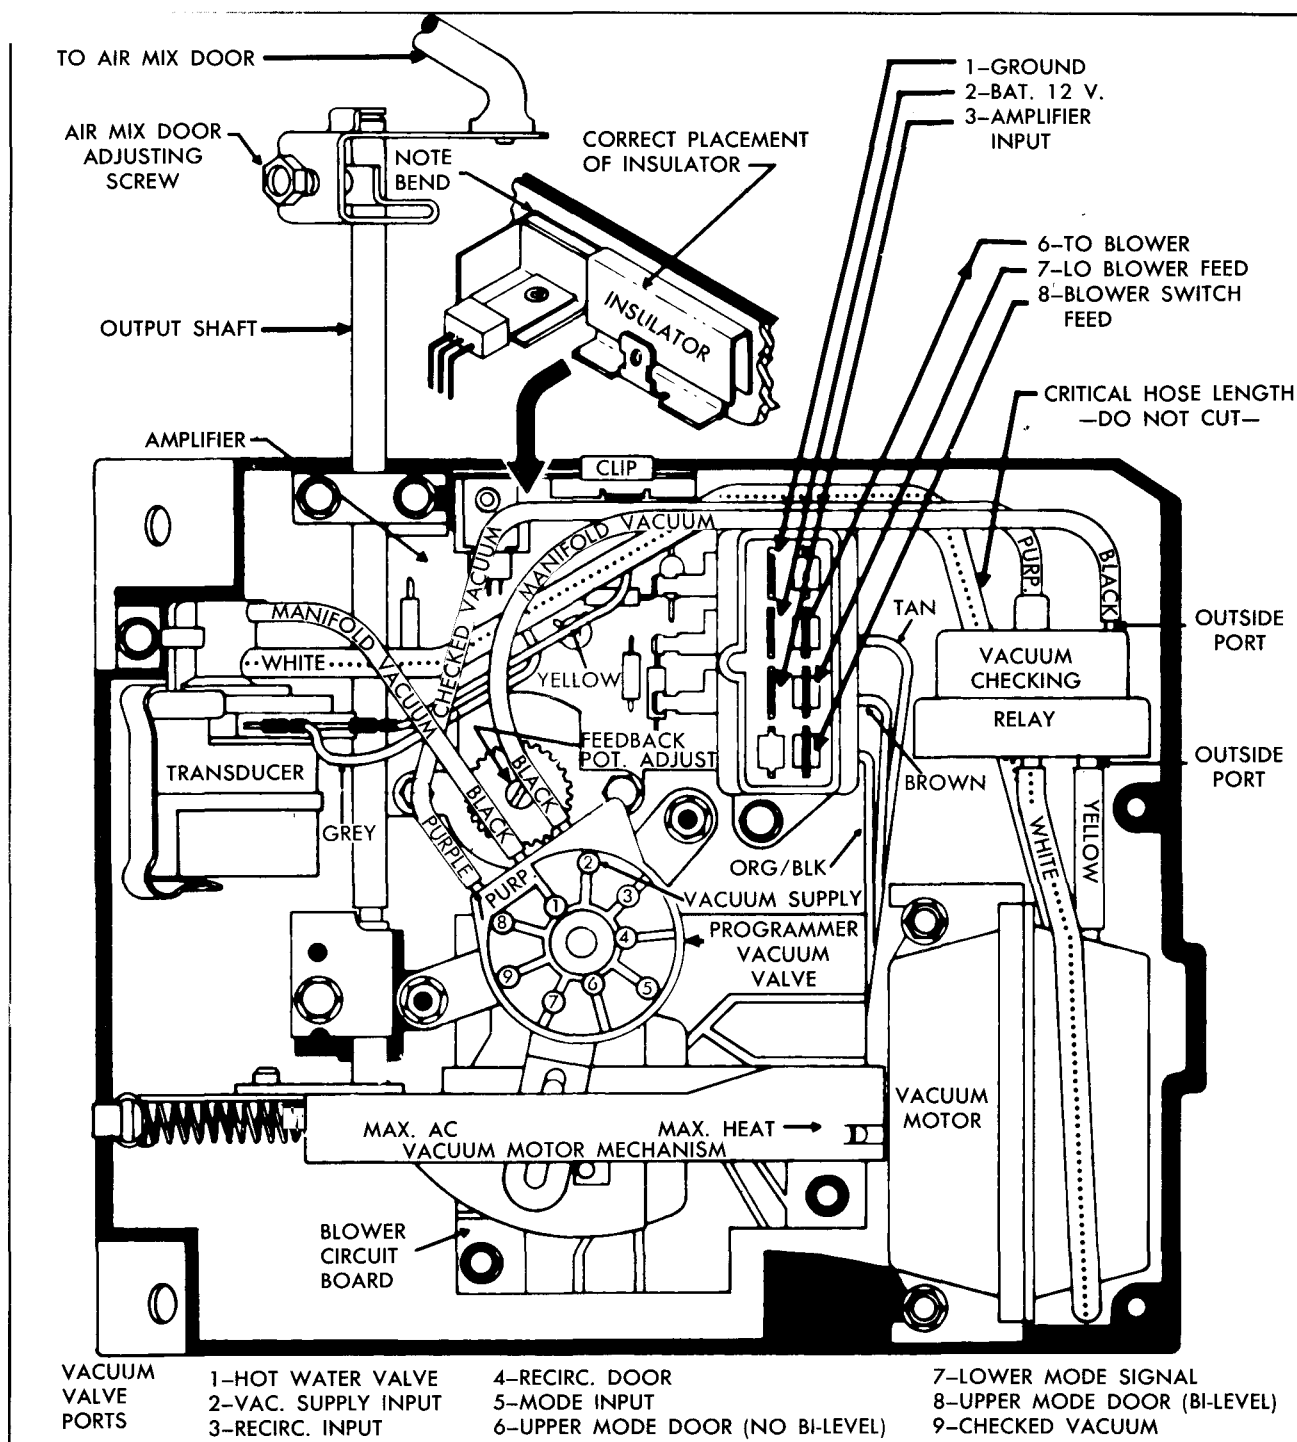

Fig. 1-100 ATC Programmer
1. Position transducer in programmer as shown in Fig. 1-100 and secure with screw and clip.
ports 1 and 2 towards vacuum motor as shown in Fig. 1-100.
- a. White hose from transducer wraps around vacuum motor and connects to port #2, Fig. 1-100.
- b. Short (yellow) hose connects remaining port (#1) to vacuum motor, Fig. 1-100.
- c. Purple hose from left hand port of vacuum valve to port #3, Fig. 1-100.
- d. Remaining black hose (R.H. nipple of vacuum valve) to the port #5, Fig. 1-100.
- a. Left hand nipple has purple hose from checking relay lower port connected to it, see Fig. 1-100.
- b. Center nipple has black hose from transducer top port connected to it, see Fig. 1-100.
- c. Right hand nipple has black hose from checking relay upper right hand port connected to it, see Fig. 1-100.
1. Position connector and circuit board to programmer and secure with three screws. Refer to Fig. 1-100.
1. Install amplifier in position in programmer housing, Fig. 1-100.
4. Install plastic guard over edge of programmer housing as shown in Fig. 1-100 and secure with clip.
- a. Black hose from programmer vacuum valve to top (small) port of transducer, Fig. 1-100.
- b. White hose from checking relay to bottom (large) port of transducer, Fig. 1-100.